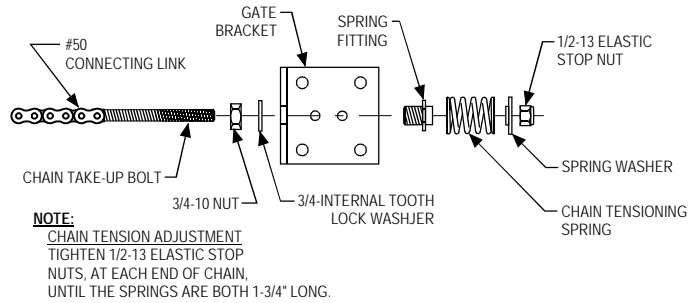

Figure 5
- (3.) Install spring fitting into gate brackets using 3/4" nuts (See Fig. 5).
- (4.) Install chain take up bolt into spring fitting in furthest gate bracket, and secure into position with spring, spring washer, and 1/2" elastic stop nut (See Fig 5).
- (10.) Adjust chain tension so that the chain tension springs are reduced in length to 1-3/4 inches (*See Fig. 5*).